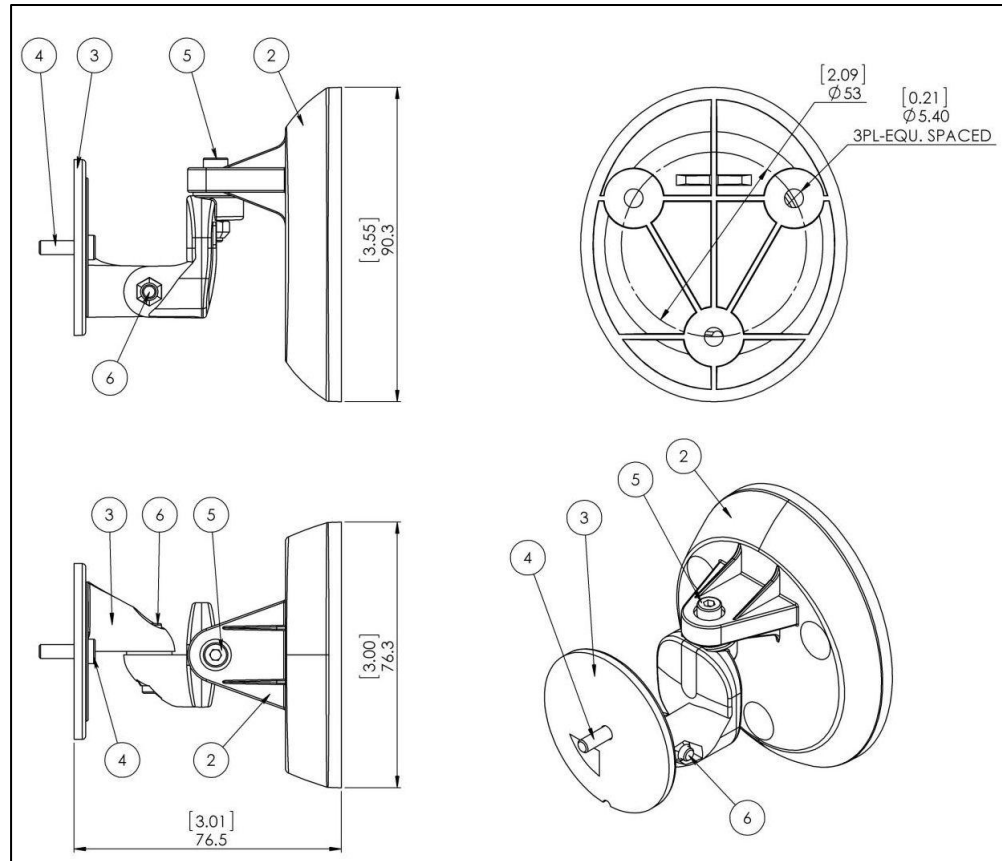
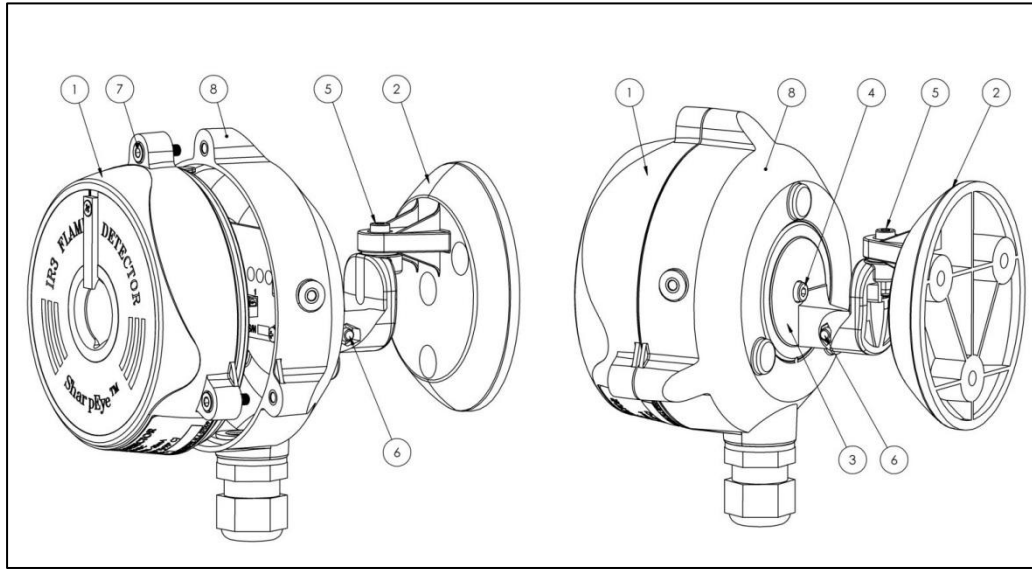

Figure 4: Tilt Mount Assembly - Outline Drawing
Figure 5: IR3 Detector and Tilt Mount Assembly
Refer to Figure 4 and Figure 5.
- 2 Place the tilt mount (Item 2) in its designated location and secure it with 3 fasteners through 3 holes 5.4mm in diameter (Figure 4).
- 3 Place the detector, with its gland pointing down, on the holding plate of the tilt mount (Item 3). Secure the detector by 1 holding screw M4 x 12" to the tilt mount. Use 3mm Hex Key for M4 screw (see Item 4 on Figure 5).
- 4 Release the locking screws (Items 5 and 6 in Figure 5) in such a way that allows rotating the detector. Point the detector towards the protected area and make certain that the view of the area is unobstructed. Secure the detector in that position by tightening the locking screws (Items 5 and 6) on the tilt mount. (Make sure the detector is in the right position.)
- a Remove the 3 socket-head captive screw M4-13 that secure the detector housing (Item 1 on Figure 5) to its back cover (Item 8) using the 3mm Hex Key. Pull the detector housing from its connection box.